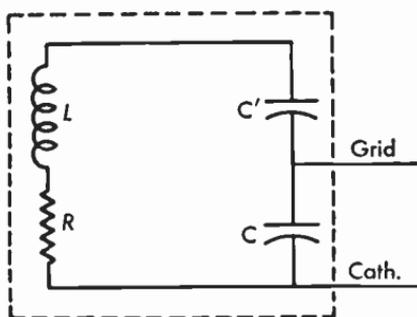

Fig. 6.06 Equivalent circuit of an oscillator crystal.
6.06 Figure 6.06 represents the equivalent circuit of a crystal-controlled oscillator. If  $L = 3.5$  henries,  $C = 5$  micromicrofarads,  $R = 6000$  ohms and  $C' = 0.05$  micromicrofarad, what change in